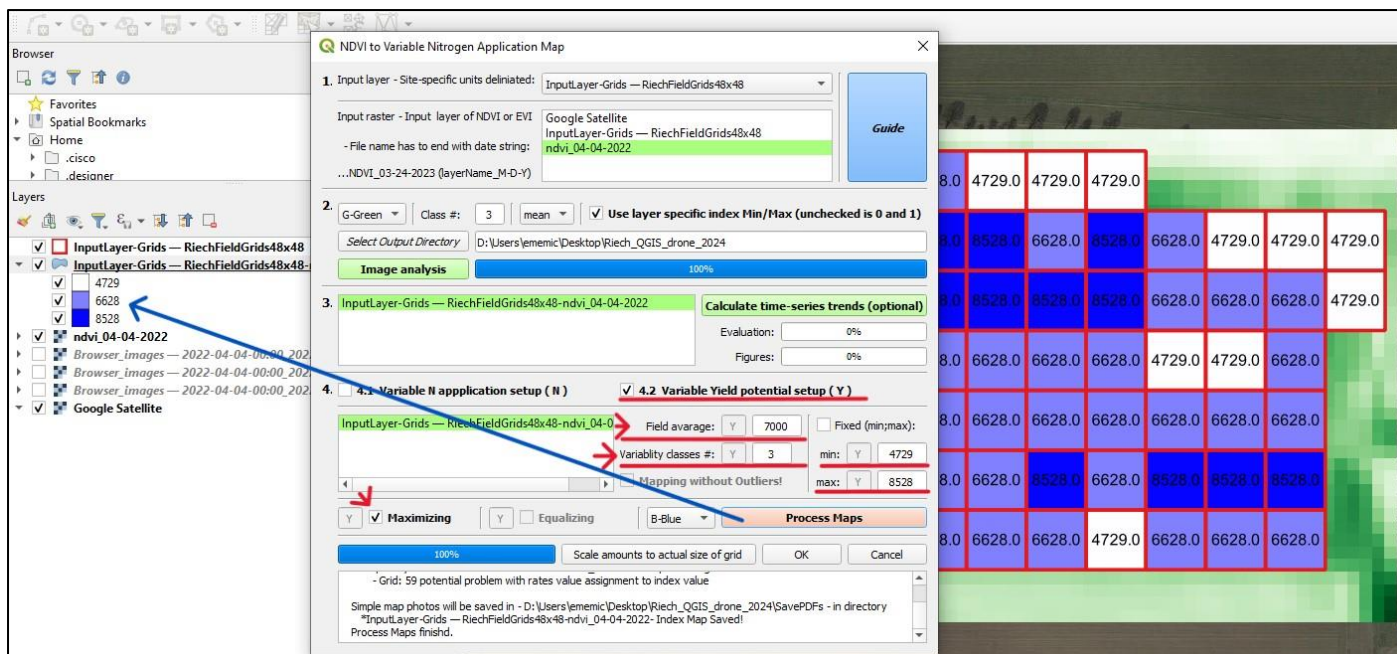

Figure 12. In section 4 site-specific **Process Maps** are created and layer is saved as image (.png) in SavePDFs automatically.
In the section 4 – **4.2 Variable Yield potential setup (Y)** - of the plugin interface there are multiple options that have to be considered before clicking **Process Maps** push button to create site-specific yield potential map (**Figure 12**).